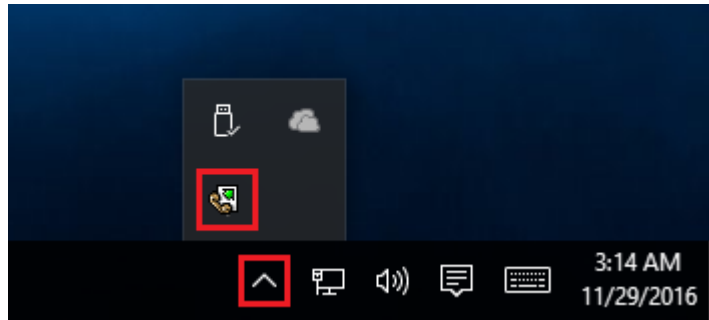

Fig. 28. Systray - panel near clock
- **Start in minimized state** - at start GPS Tracker Data Logger will automatically minimize the program window to the taskbar or to the Systray (fig. 28).